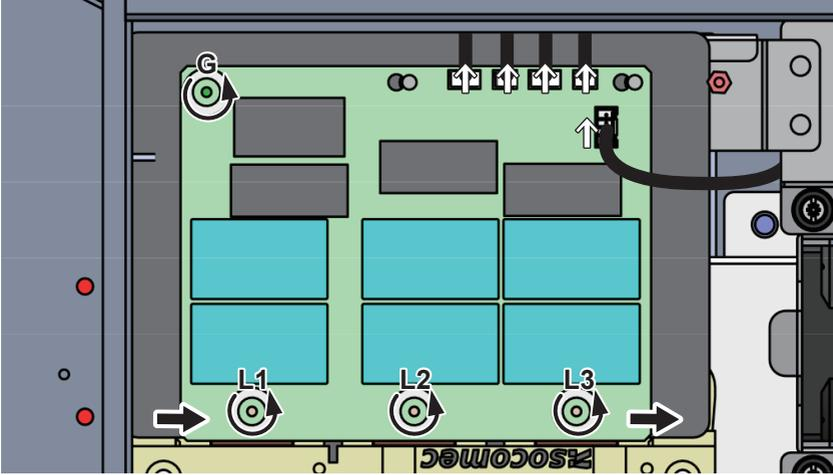

Figure 5-7: Remove wirings as connectors of AC SPD
Tighten the five screws to a torque value shown in **Figure 5-7**.
- **To remove the defective DC SPD (Figure 5-7)**
3. Remove two self-retaining screws located on the right (DC) side of the DC SPD PCB.